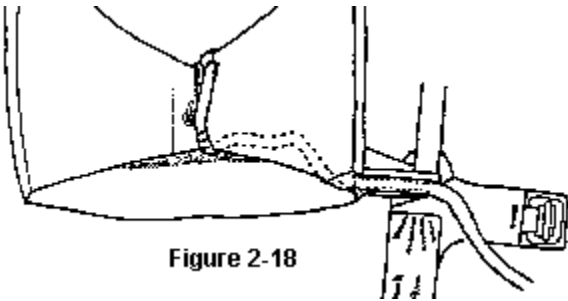

Figure 2-18
Step 23 Mate the Velcro along the lumbar strap and container side, tucking the excess bridle under the side flap as shown in *Figure 2-18*.